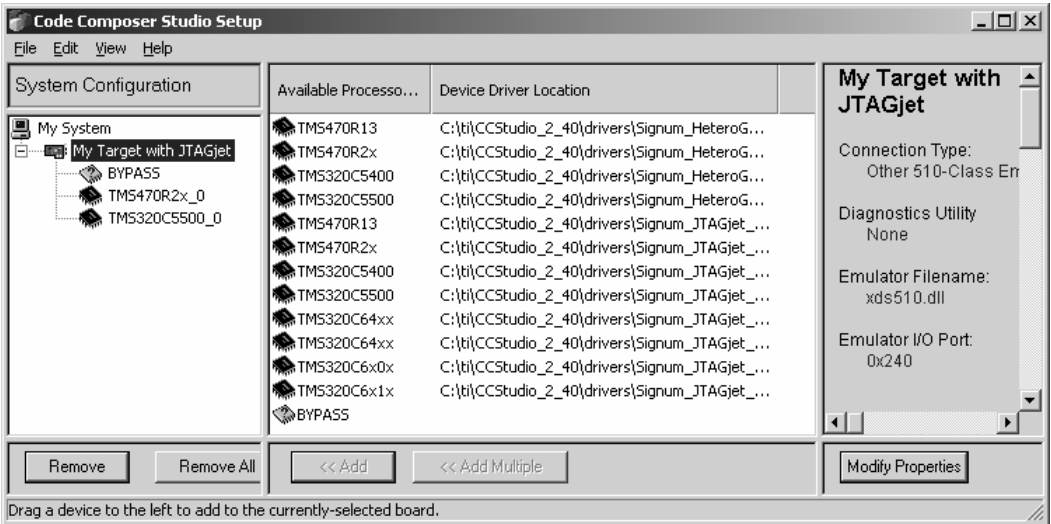

FIGURE 29 OMAP 1510 configured for the JTAGjet emulator.
5. Figure 29 shows a configuration example for OMAP 1510. Save the configuration and start Code Composer Studio.